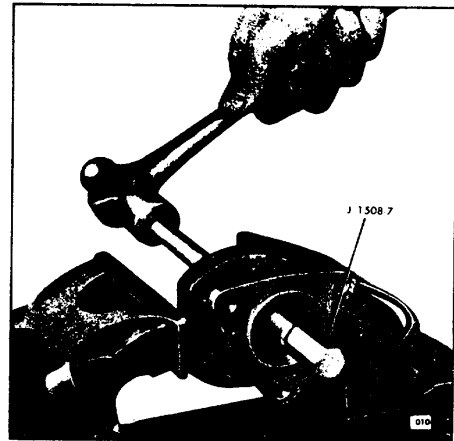

Fig. 4 Removing Oil Seals
7. If the oil seals need replacing, remove them with tool J 1508-7, as shown in Fig. 4., by clamping the pump body in a bench vise and screwing the threaded end of the tool shaft into the outer oil seal (seal nearest to the bolting flange). Then tap the pilot end of the shaft with a hammer to remove the seal. Repeat this operation to remove the inner oil seal.